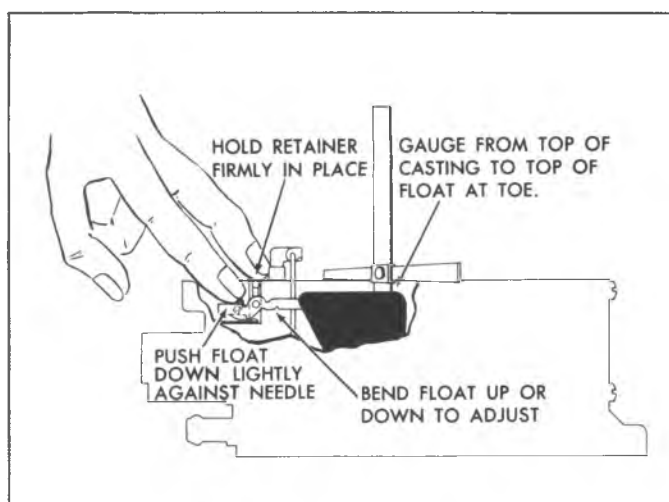

Fig. Q6--Float Level Adjustment
13. **Float level adjustment (fig. Q6)**